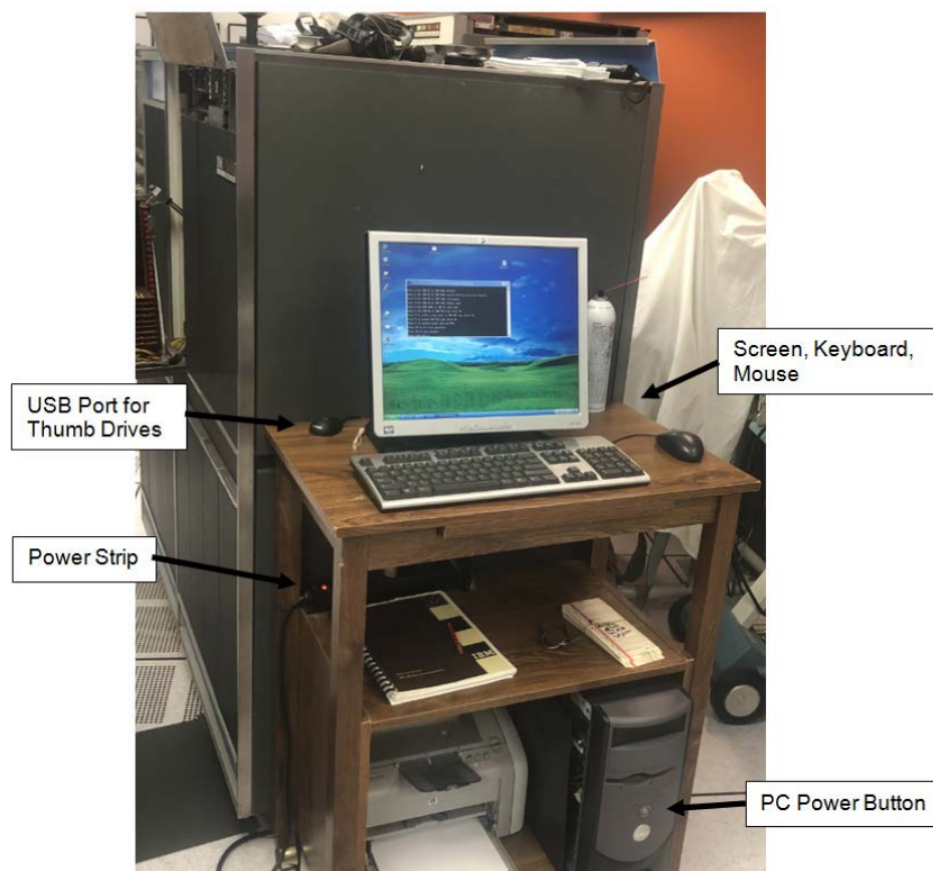

Figure 2: PCWRITE IBM PC Cart and CT 1401 CPU Enclosure
4. Turning on the IBM PC and starting PCWRITE on the IBM PC (See Figure 2)